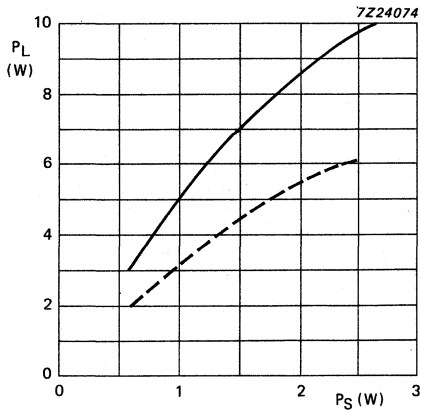

Fig. 6 Load power as a function of source power.
**Conditions for Figs 6 and 7:**